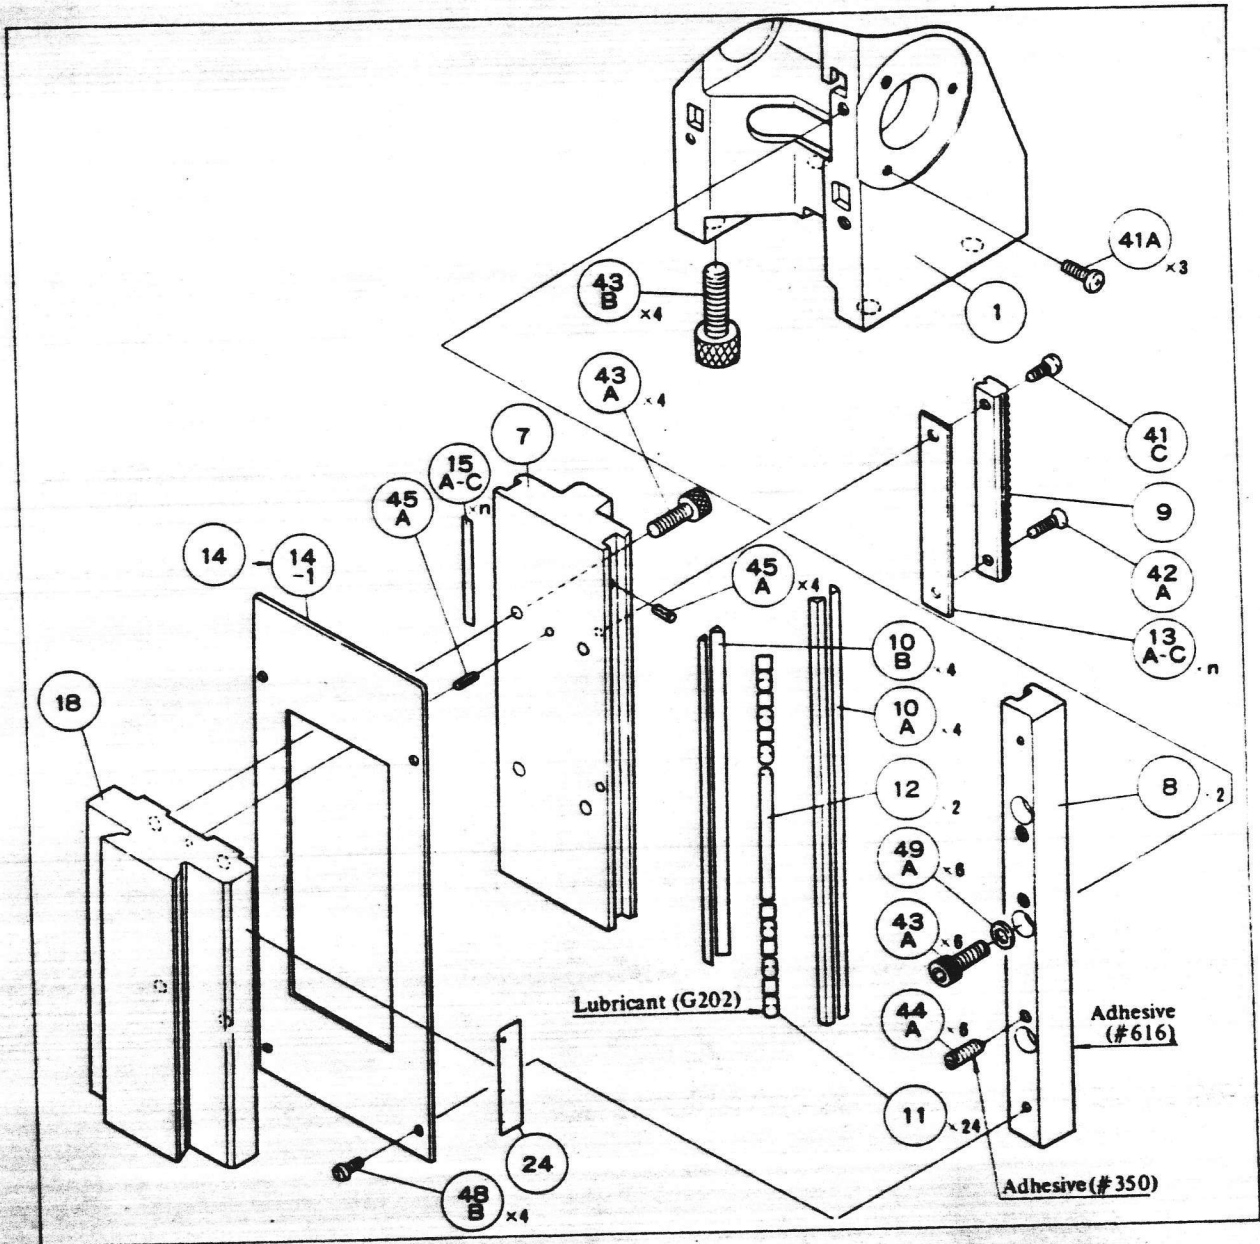
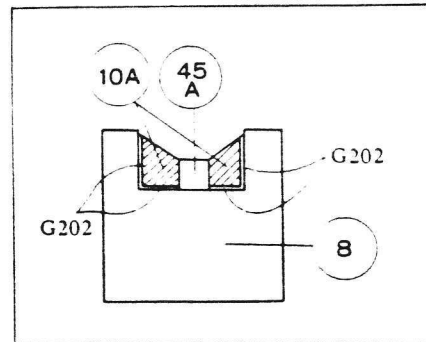

Fig. 29
Fig. 40
- 1) Releasing HS set screws (48A) x4 (LABOPHOT: (47A) x4), take off rear cover (2).
- 2) Releasing HS set screws (43A) x4, take off dovetail (18) (LABOPHOT: Screw (235A) and dovetail (201)) (Fig. 29).
- 3) Releasing HS screws (43B) x4 (LABOPHOT: (47B) x4), take off cover plate (14). (Fig. 29).
- 4) After removing bottom plate (402) from the base, and releasing (43B) x4, take off arm (1) from base body (401). (Fig. 29).
- 5) Releasing screws (41C) and (42A) (LABOPHOT: (41A) and (42A)), draw out rack (9) together with washers (13A) ~ (13C) toward the base. (Fig. 29).
- 1) Clean and dry the parts to be oiled or cemented as shown in Fig. 29, 30, and then apply the specified lubricant and adhesive.
- 2) If in Disassembly Procedure 7 (P. 22) the lefthand race (8) on the fiducial side has been dismantled for an unavoidable reason, use the right one as fiducial (Assuming that both the right and left races have not been dismantled).
- i) Fix (104) × 4 to the guide rails (10A) attaching surfaces of (8), using lubricant G202. (Fig. 40).
- ii) Attach (10B) × 4 to both the guide rail (10B) attaching surfaces of roller race (male) (7), using lubricant G202. (Fig. 40).
- iii) Apply lubricant G202 to the sliding surfaces of (10A), (10B) and cylindrical rollers (11).